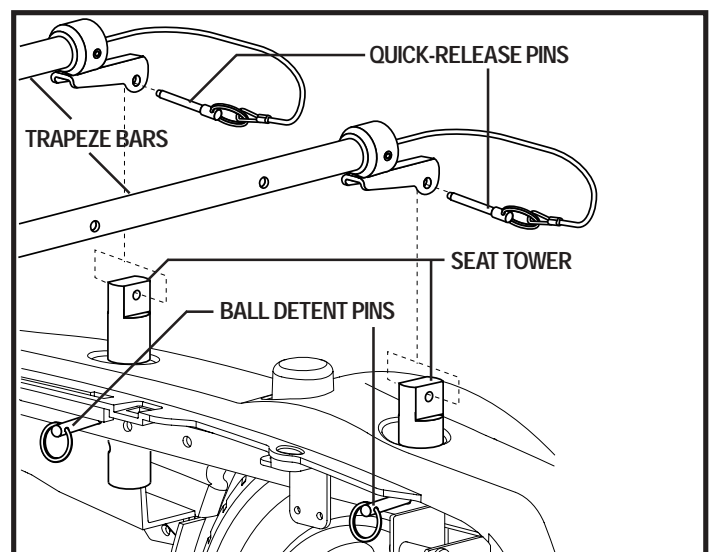

Figure 13. Seat Height Adjustment
6. Remove the quick-release pins from the seat towers (front and rear). See figure 13.
9. Remove the ball detent pin from each of the four seat towers. See figure 13.